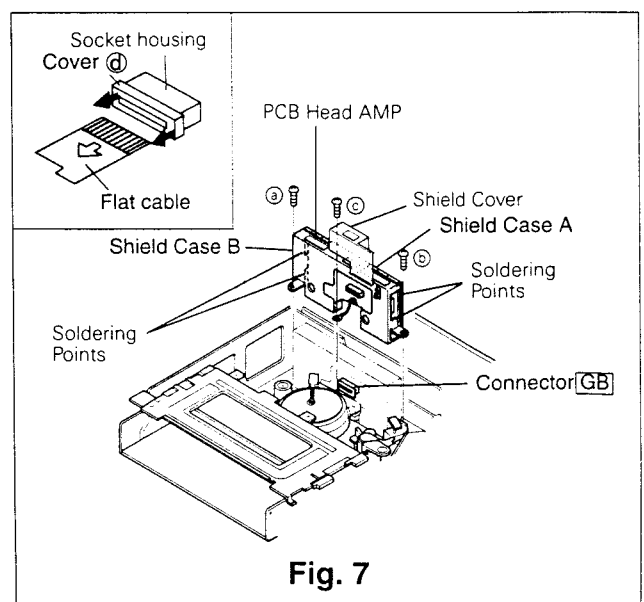

Fig. 7
- C. Disconnect the flat cable by gently pulling cover ① of the connector GB, as shown in Fig. 7.
- D. Remove three screws (①~③).